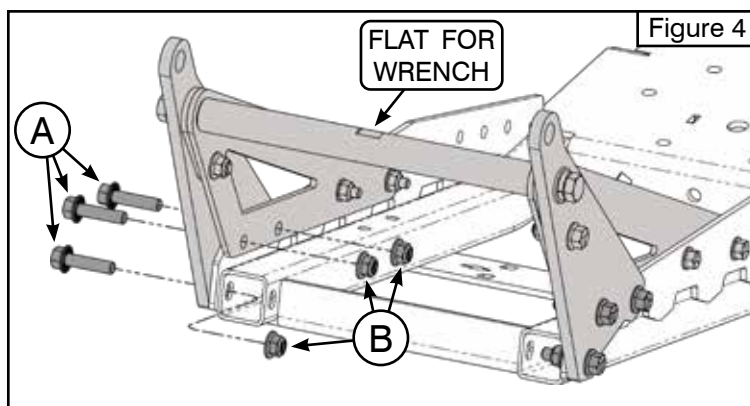

Figure 4
5. Reinstall bolts (A) and nuts (B) removed in **Step 1** into their original positions. See **Figure 4**.
5. Hold Wing Flap (2) in place and secure using 5/16 bolts (3.1) and 5/16 nuts (3.6) as shown in **Figure 4**.